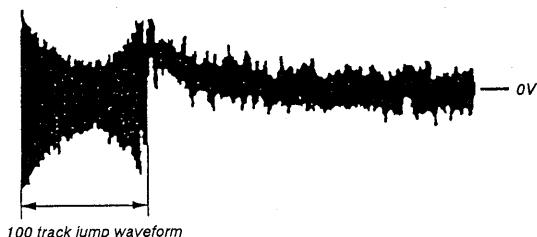

Fig. 3
7. Press **▶(▶)** or **◀◀** keys and observe the 100 track jump waveform. Check that no traverse waveform appears for both **▶(▶)** or **◀◀** directions. (See Figures 3 and 4.) It is acceptable if the traverse waveform appears only now and then, but if it appears constantly raise tracking gain slightly and check step 7 again.